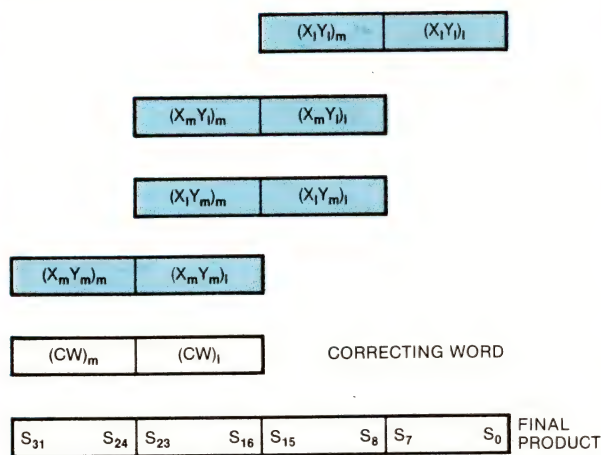

Fig 2—Software adds the partial products (produced by multiplying bytes) in a weighted fashion.
Software then adds and accumulates the partial products produced by this process according to the procedure shown in Fig 2.
The software therefore tests these partial products' sign bits—resetting them if negative—and subtracts 2^{23} if one of them is negative or 2^{24} if both are. This factor to be subtracted is the correcting word (CW) in Fig 2.